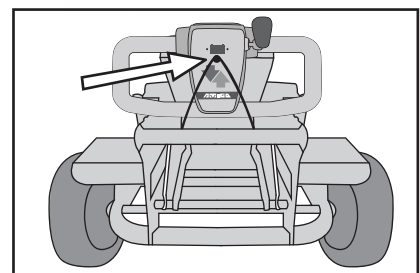

Figure 9
7. To lock tiller in place, loop retainer cord over black knob in middle of enclosure (Figure 9).